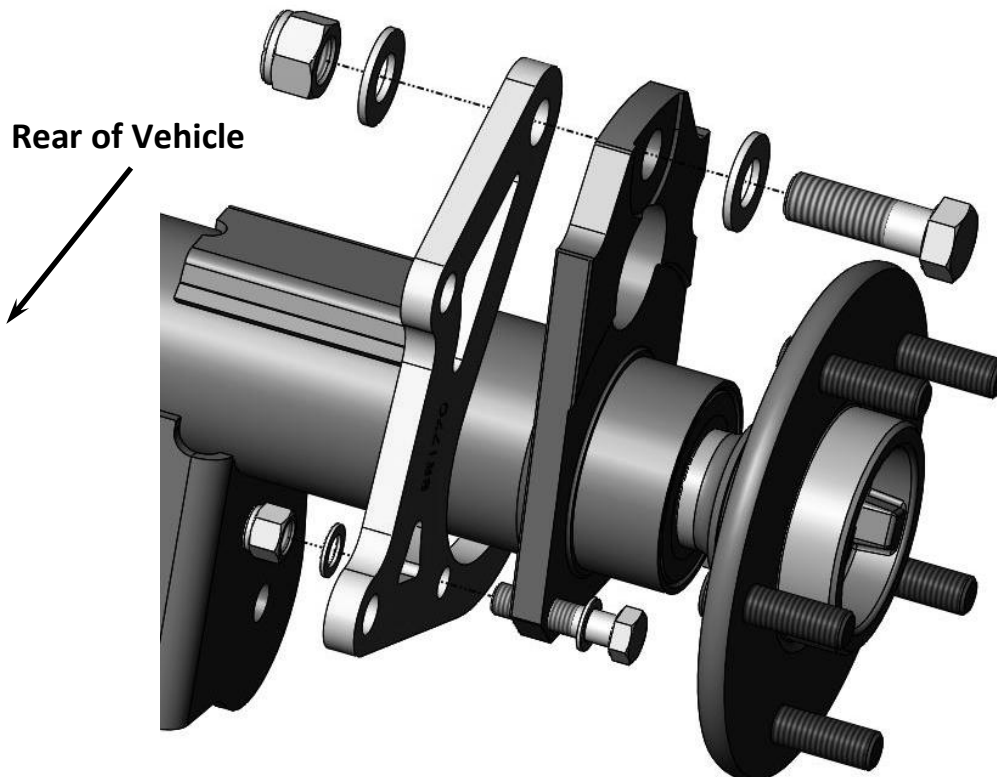

Figure 3 – Axle Re-installed w/Primary Caliper Mounting Bracket Installation (Passenger Side Shown)
7. Install the Primary Caliper Mounting Bracket using the supplied 9/16"-18 x 1.750" Grade 8 Hex Head Bolts in the upper drum brake pivot hole. Use the supplied 9/16" SAE Flat Washers. Loosely install the 9/16"-18 Nylon Lock Nuts. Install the supplied 3/8"-24 x 1.500" Grade 8 Hex Head Bolts, 3/8" AN Flat Washers, and 3/8"-24 Nylon Lock Nuts in the two lower holes. With all hardware started, torque the 9/16" hardware to 100lb/ft and the 3/8" hardware to 35ft/lb. **NOTE:** Install the caliper bracket so that it will position the caliper to the rearward side of the axle housing. Refer to Figure 3 below for installation reference.